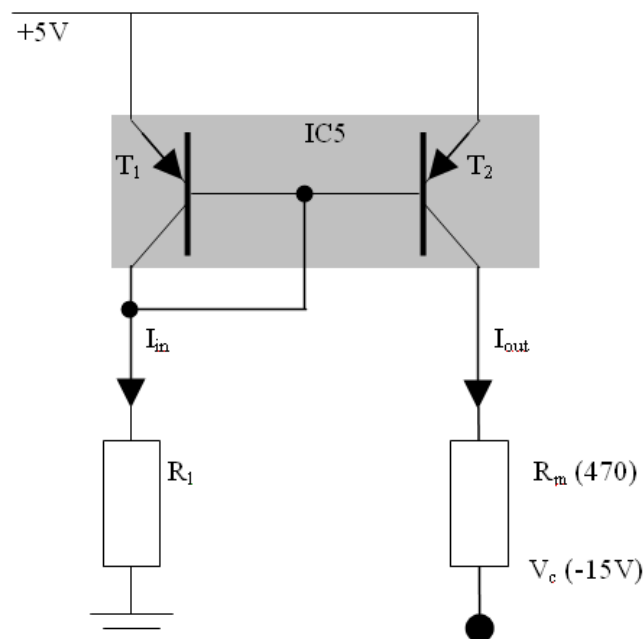
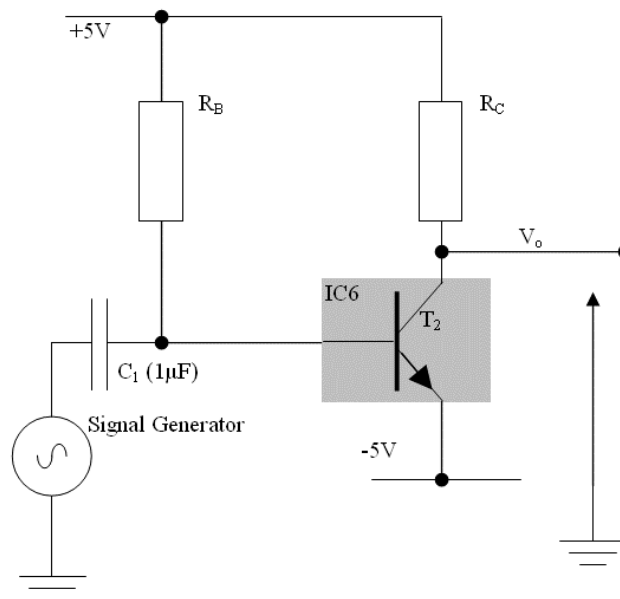
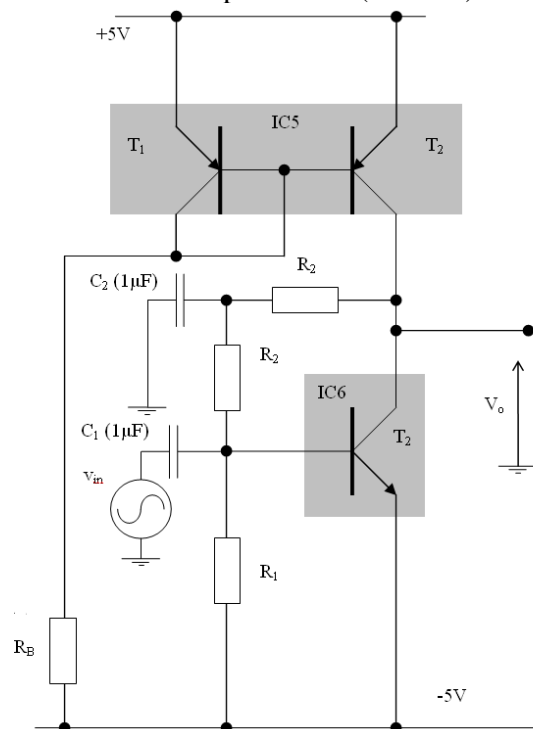

Figure 5 Implementation of simple current mirror
Figure 7 Common emitter circuit
Figure 9 CE stage with active load
Diode-connected transistor $T_{1(5)}$ (see Figure 5) fixes the base-emitter voltage of $T_{2(5)}$. The collector-base connection of $T_{1(5)}$ is necessary to ensure that both $T_{1(5)}$ and $T_{2(5)}$ get their required base current, as mentioned earlier.
In op-amp design, it is desirable to have a high voltage gain from a single amplifier stage. The most common configuration of a high gain voltage amplifier is the common emitter (CE) configuration (the emitter being the common point to input and output voltages). In fact, the CE stage is the only single transistor configuration that gives high voltage and high current gain simultaneously. Figure 7 shows a simple common emitter amplifier, together with associated biasing circuitry.
- In a fresh schematic, simulate the CE amplifier (Figure 7). Make sure that you have set the $-5V$ rail. Check that all DC levels of the amplifier are as you expect.
- Copy your previous circuit to a new schematic and replace R_C (Figure 7) in the single stage CE voltage amplifier, with the collector output of transistor $T_{2(5)}$ in the simple current mirror design (from section 5) as shown in Figure 9.
- Note that now R_1 (Figure 5), has been replaced by a resistor with a terminal connected to the -5V rail (R_B in Figure 9). Choose R_B to obtain an input current (into IC5) of 1 mA.